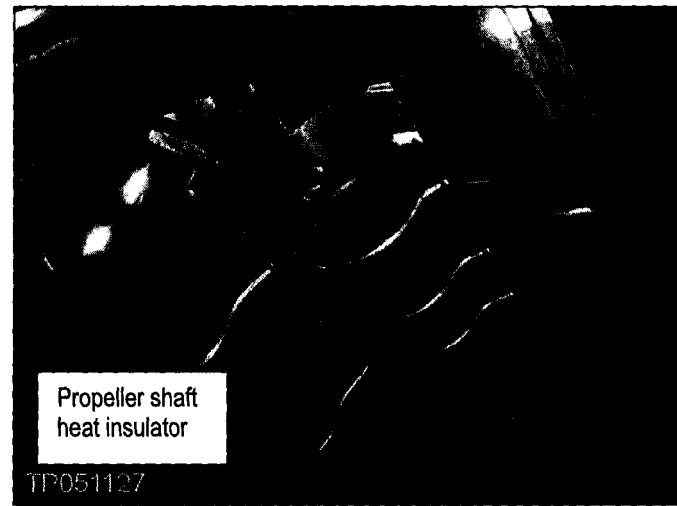

Figure 13
13. Remove four nuts and remove the propeller shaft heat insulator (see Figure 13).